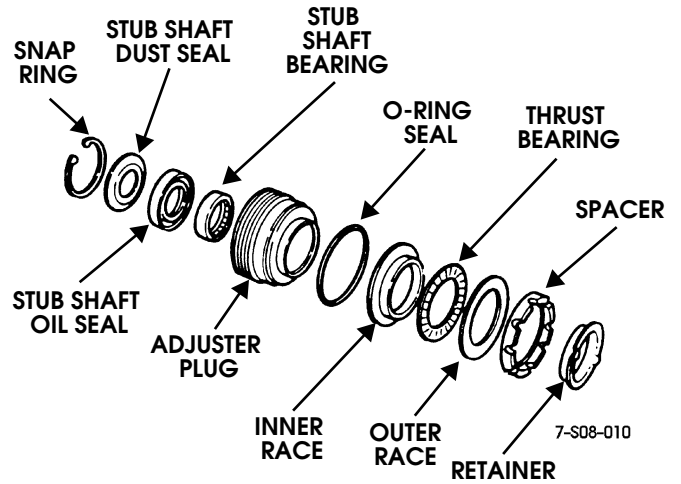

Figure 8-37: Adjuster Plug Components
- 4. Remove bearing spacer, thrust bearing and races, and O-ring (Figure 8-37).